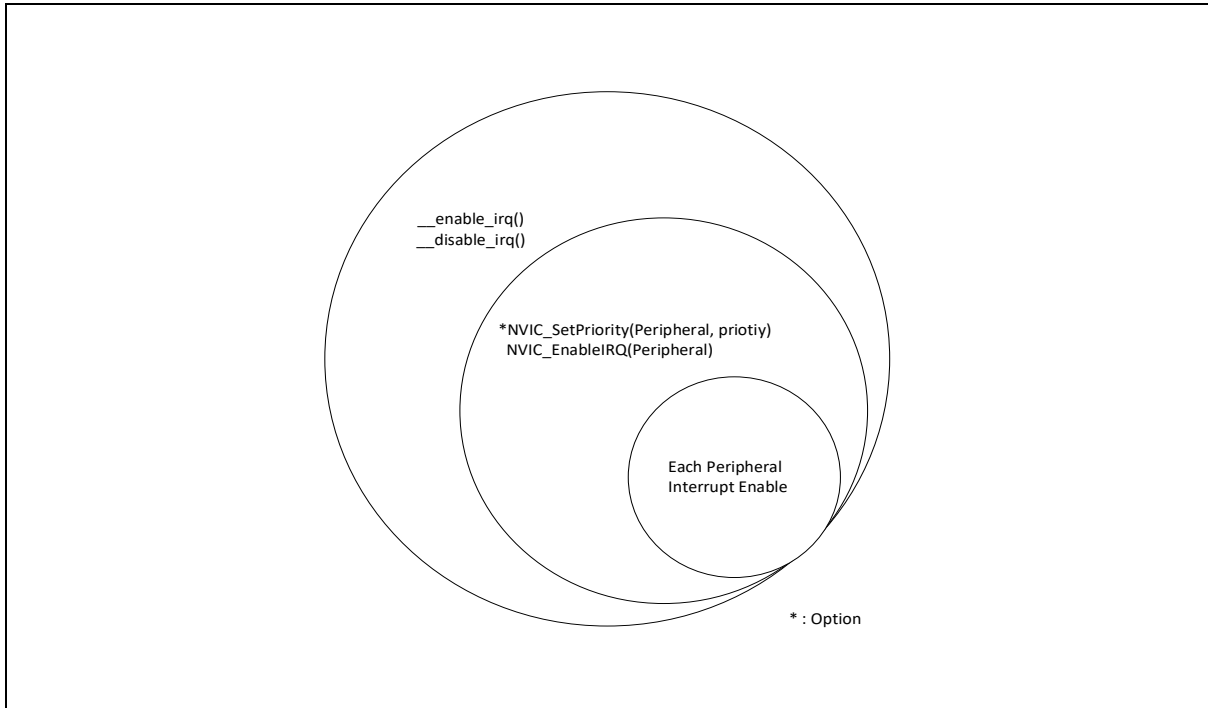

Figure 6. Interrupt Block Diagram
- Figure 6 is a caution when using Peripheral Interrupts. Interrupt don't work if only peripheral interrupts are enabled. Enable the function in core to enable interrupt.